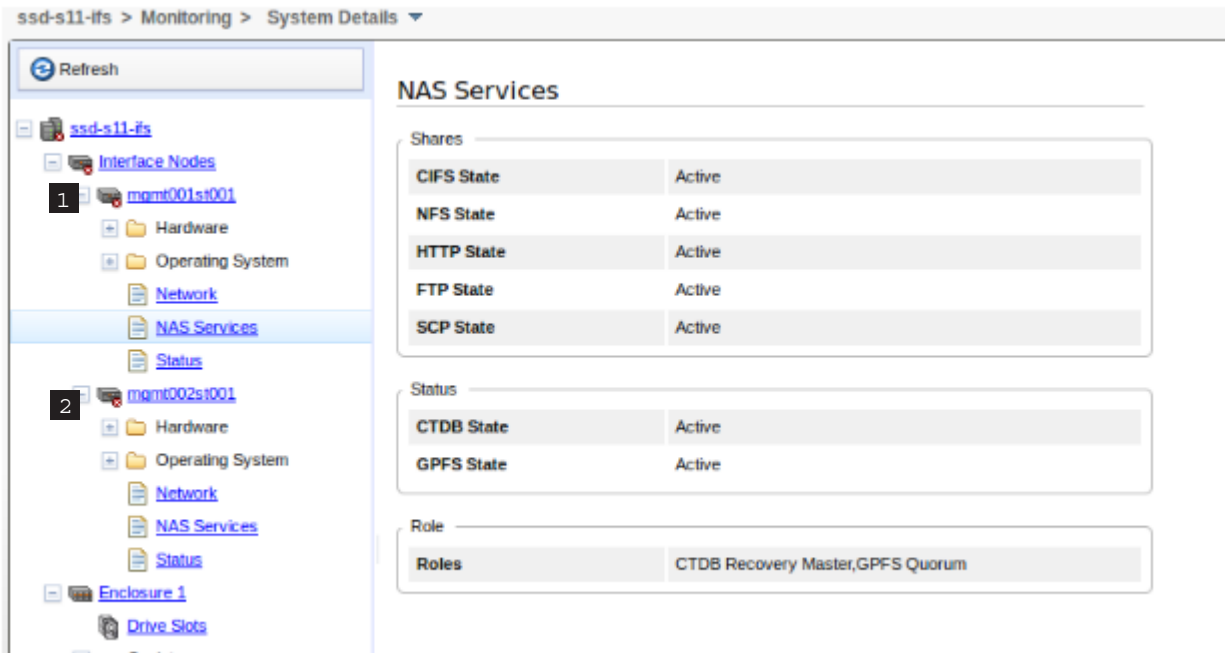

Figure 62. Management GUI showing CTDB status for both file modules
- Review the status of both file modules, **1** mgmt001st001 and **2** mgmt002st001, as shown in Figure 62 on page 179.